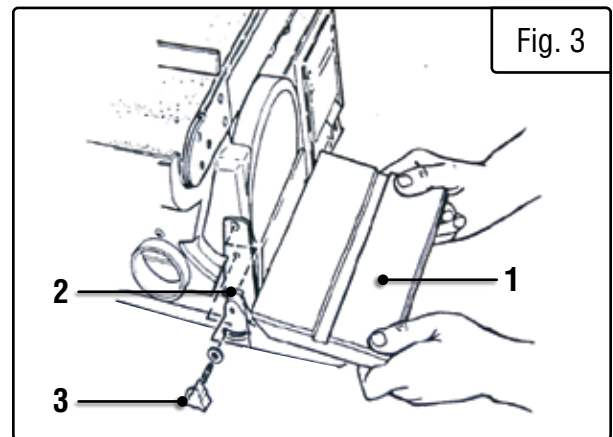

Fig. 3
1. With the table (Fig. 3 - 1) in a horizontal position, line up and insert the pivot indexing pin (Fig. 3 - 2) with the pivot hole on the frame. Hold in place.
2. Insert the table lock knob (Fig. 3 - 3) into the threaded hole and tighten.